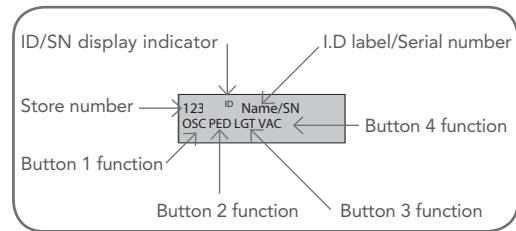

Fig 10.1
The Axess® Pro Series 1101 can store up to 511 transmitters in its memory. Each transmitter can be allocated an alpha-numeric ID label up to eleven (11) characters in length and each button can be assigned to one of several control functions. The settings for a transmitter are represented in (Fig. 10.1). It shows the transmitter's store number, ID label or serial number and the functions assigned to each of its four buttons. To toggle between ID/SN display, press UP/DOWN with the cursor on the ID/SN indicator. The procedures below code, delete, replace, edit and copy transmitter records.